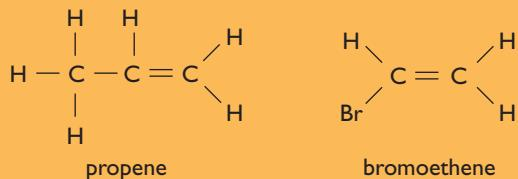

Figure 1.27
3. Figure 1.27 shows the structural formulae for two alkene monomers. These monomers undergo addition polymerisation to form polymer chains. Draw a section of the polymer chain containing three repeating units for each example.